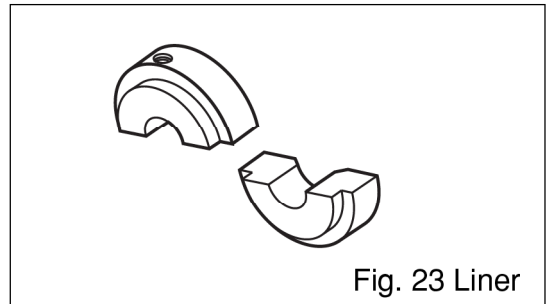

Fig. 23 Liner
(2) Liners for tubes 5/8 and 3/4 in diameter (Fig. 23)